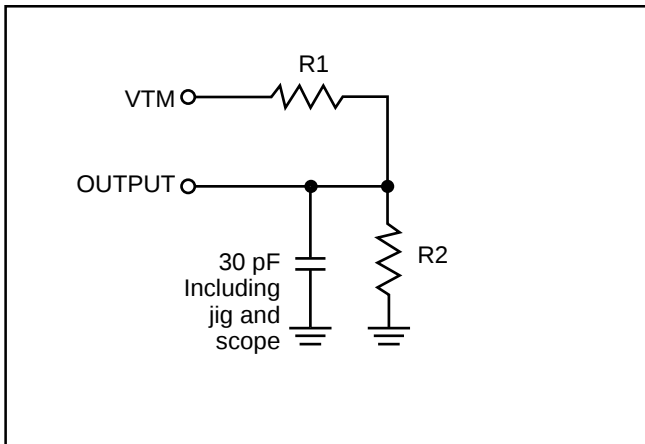

Figure 1
| Output Load                                 | See Figures 1 and 2 (1) |
Note 1. All AC test to output Load Figure 1, except High-Z use output load Figure 2.